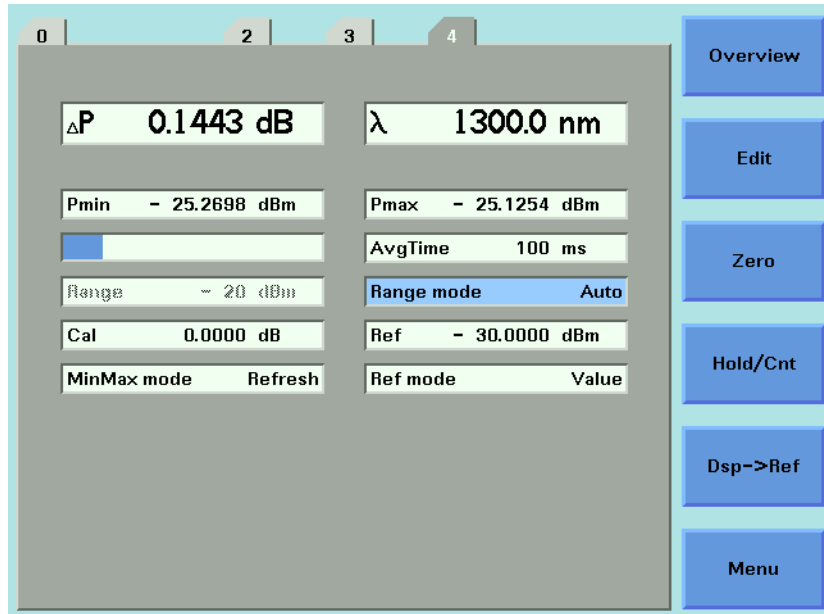

Figure 68 MinMax Mode Screen
- 3 Move to <Refresh>, by using the cursor key, and press *Enter*. The screen in Figure 68 on page -118 appears.